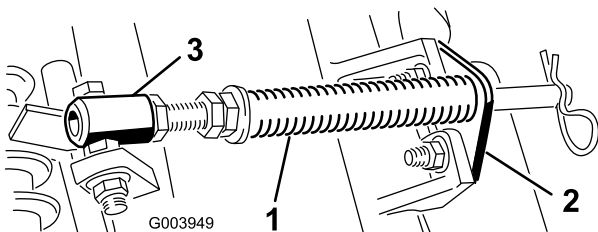

Figure 5
- A. Remove the 2 carriage bolts and nuts securing the rod bracket to the cutting-unit tabs (Figure 5).
- B. Remove the flange nut securing the spring tube bolt to the carrier-frame tab (Figure 5) Remove the assembly.